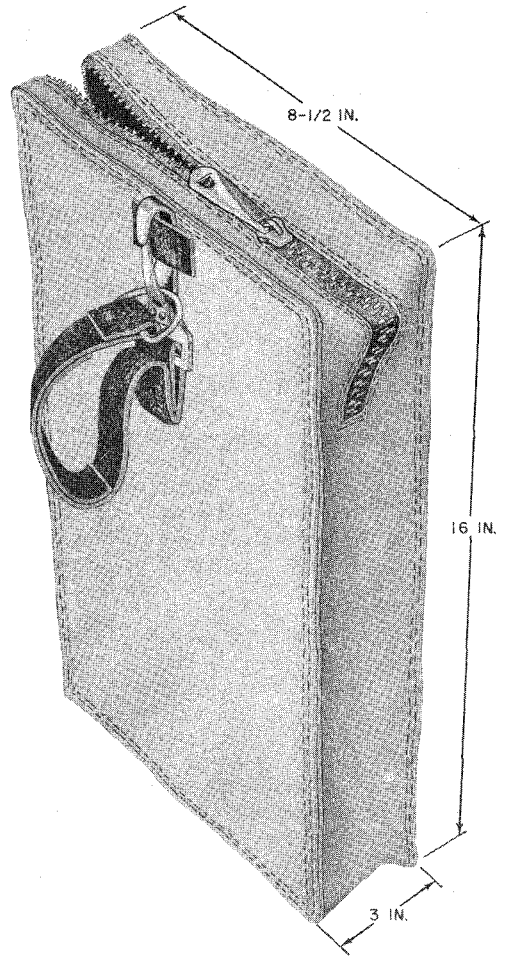

Fig. 4—B Glove Bag
**6.01** The B glove bag (Fig. 4) is provided for carrying and storing insulating gloves and associated leather protector and fabric liner gloves.